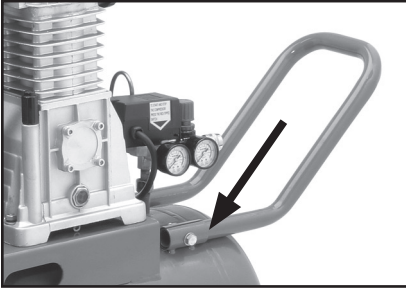

Figure 5. Air compressor handle.
5. Slide the handle into the sockets on the tank and secure with M8-1.25 x 45 hex bolts, flat washers, lock washers, and hex nuts as shown in **Figure 5**.